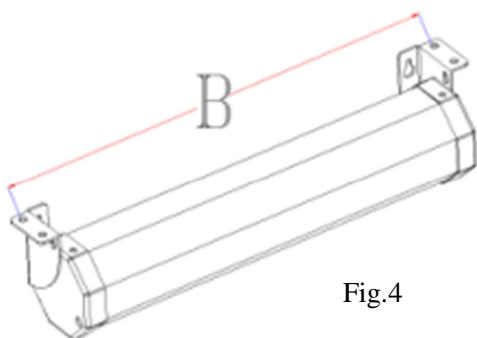

Fig.4
1. Measure distance B (shown in Fig. 4) between the holes on the top of both end caps with a measuring tape. Mark and then drill the four screw holes on the ceiling.